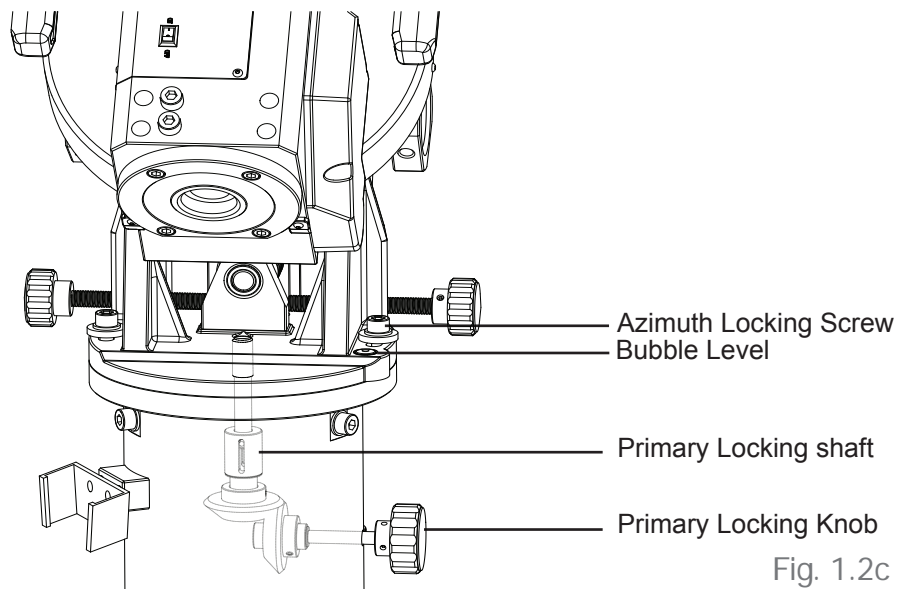

Fig. 1.2c
3. Apply the two azimuth locking screws with washers to slightly fix the mount on the tripod top. (Fig. 1.2c). Do not tighten these screws yet.
4. Turn the primary locking knob in clockwise direction to engage the primary locking shaft to the threaded hole at the center of the mount's bottom. Turn the knob until it is tightened. (Fig 1.2c) If necessary, re-adjust the toes using the bubble level on the mount as a reference.